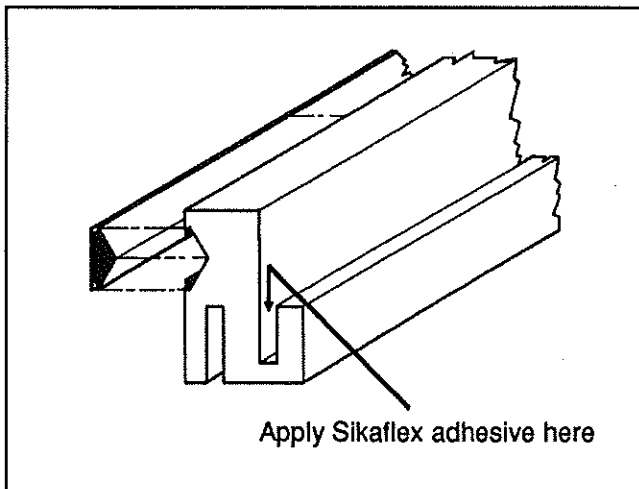

Fig. 37
7. Apply Sikaflex-255 FC adhesive all around the rubber extrusion in the channel for the windshield opening flange. See figure 37.